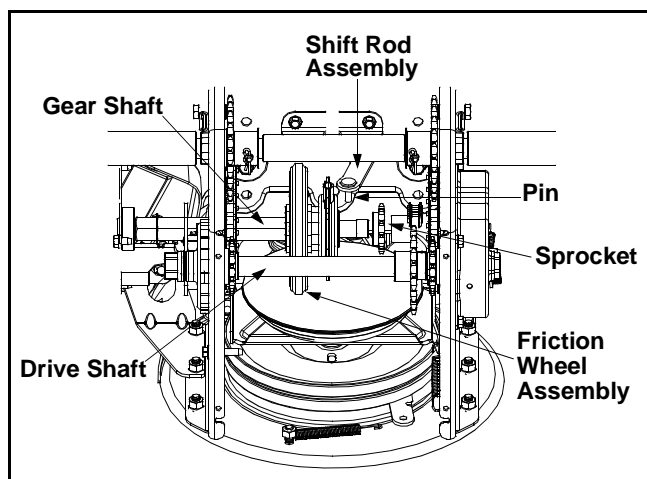

Figure 17
- Holding the friction wheel assembly, slide the hex shaft out of the left side of the frame. The spacer on the right side of the hex shaft will fall and the sprocket should remain hanging loose in the chain. See Figure 17.